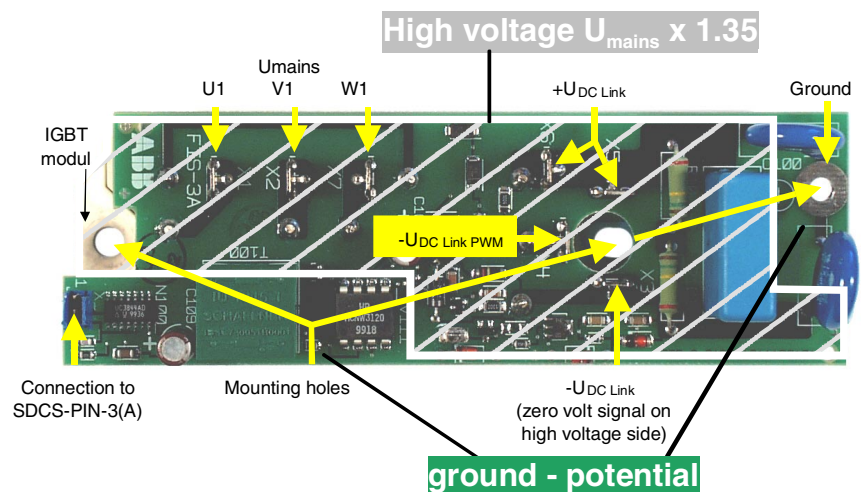

Figure 5-4 Field Exciter Unit SDCS-FIS-3A
- Unscrew the field exciter unit (see Figure 5-4) and mark it clearly.
3. Tighten the clamping screws (IGBT-module to heatsink) to 5 Nm mounting torque and the screw for electrical connection to 3 Nm mounting torque (refer to *Figure 5-4*).